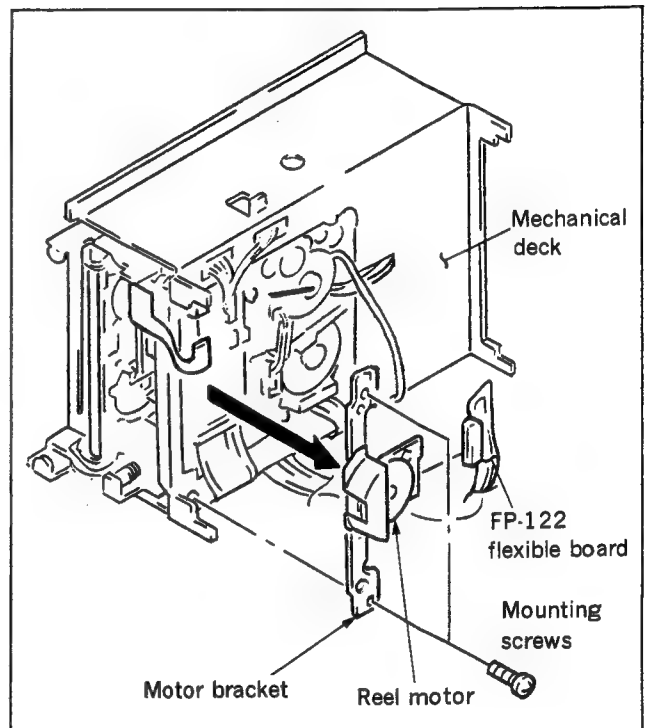

Fig. 4-9-2 Motor bracket removal
2. Motor bracket removal (Fig. 4-9-2)